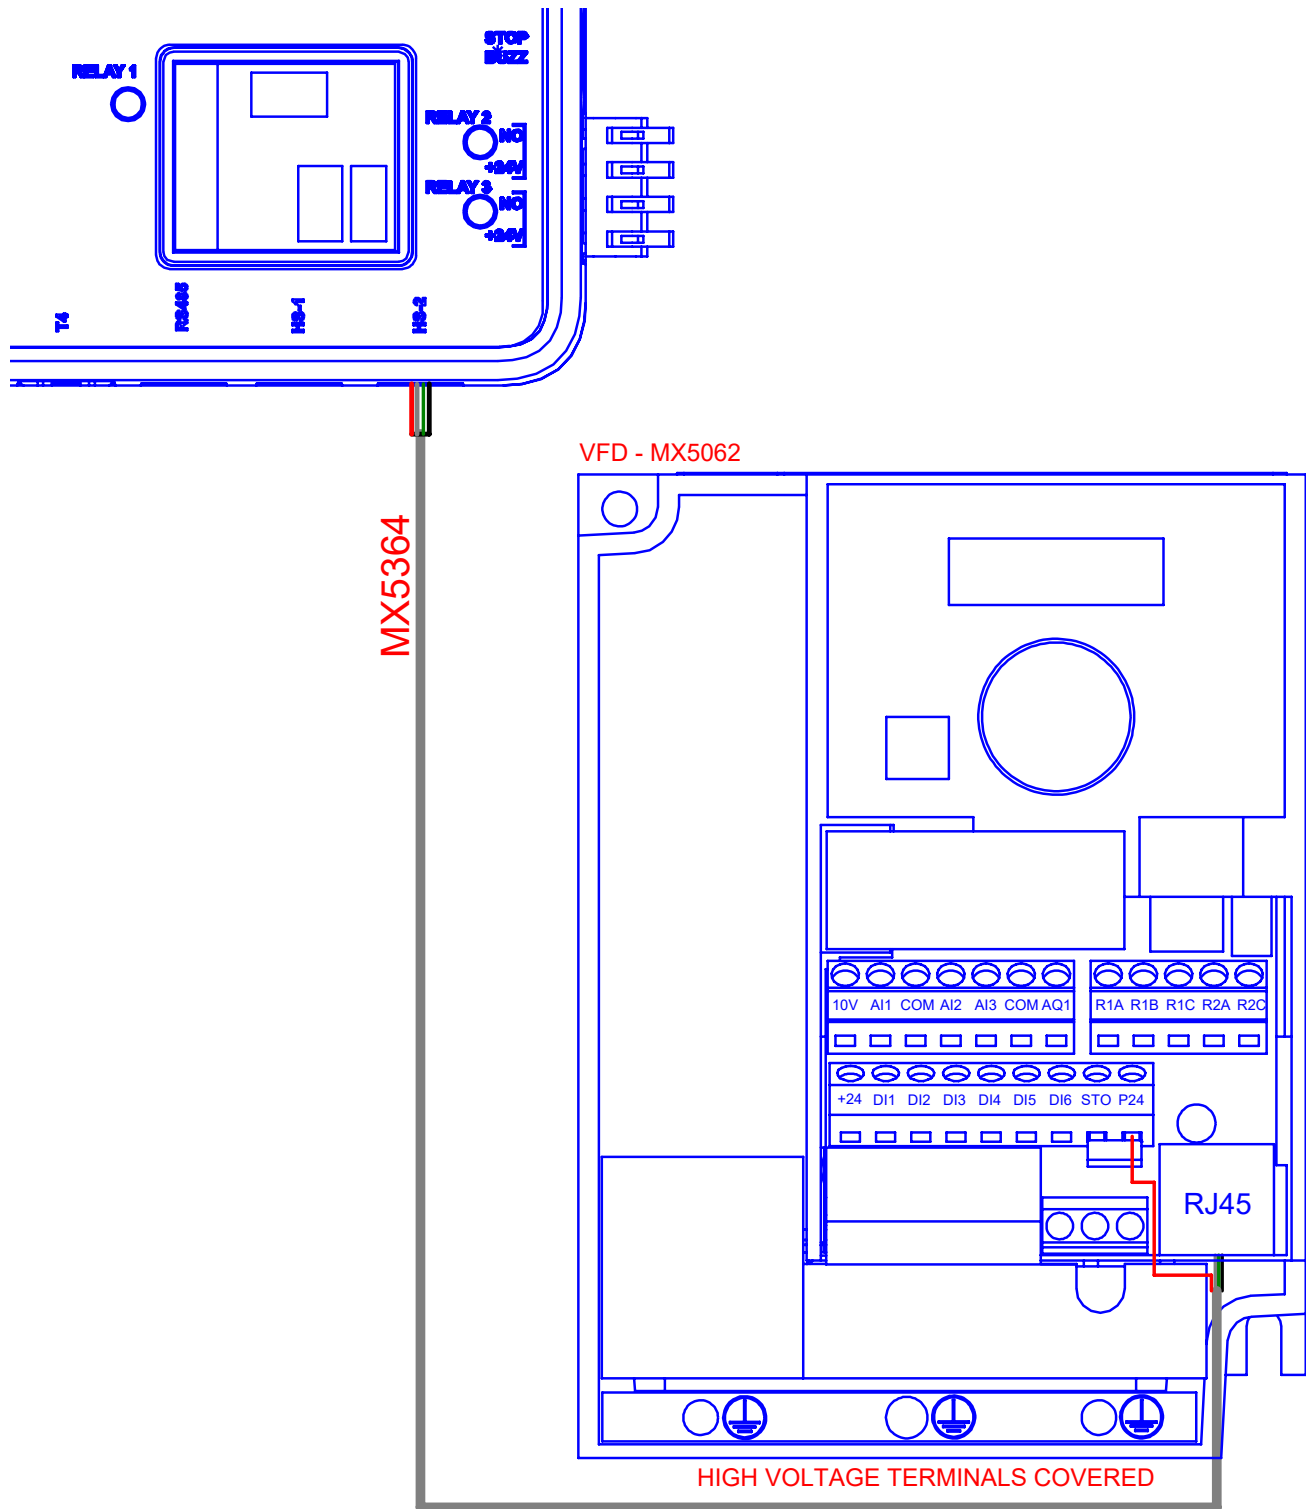
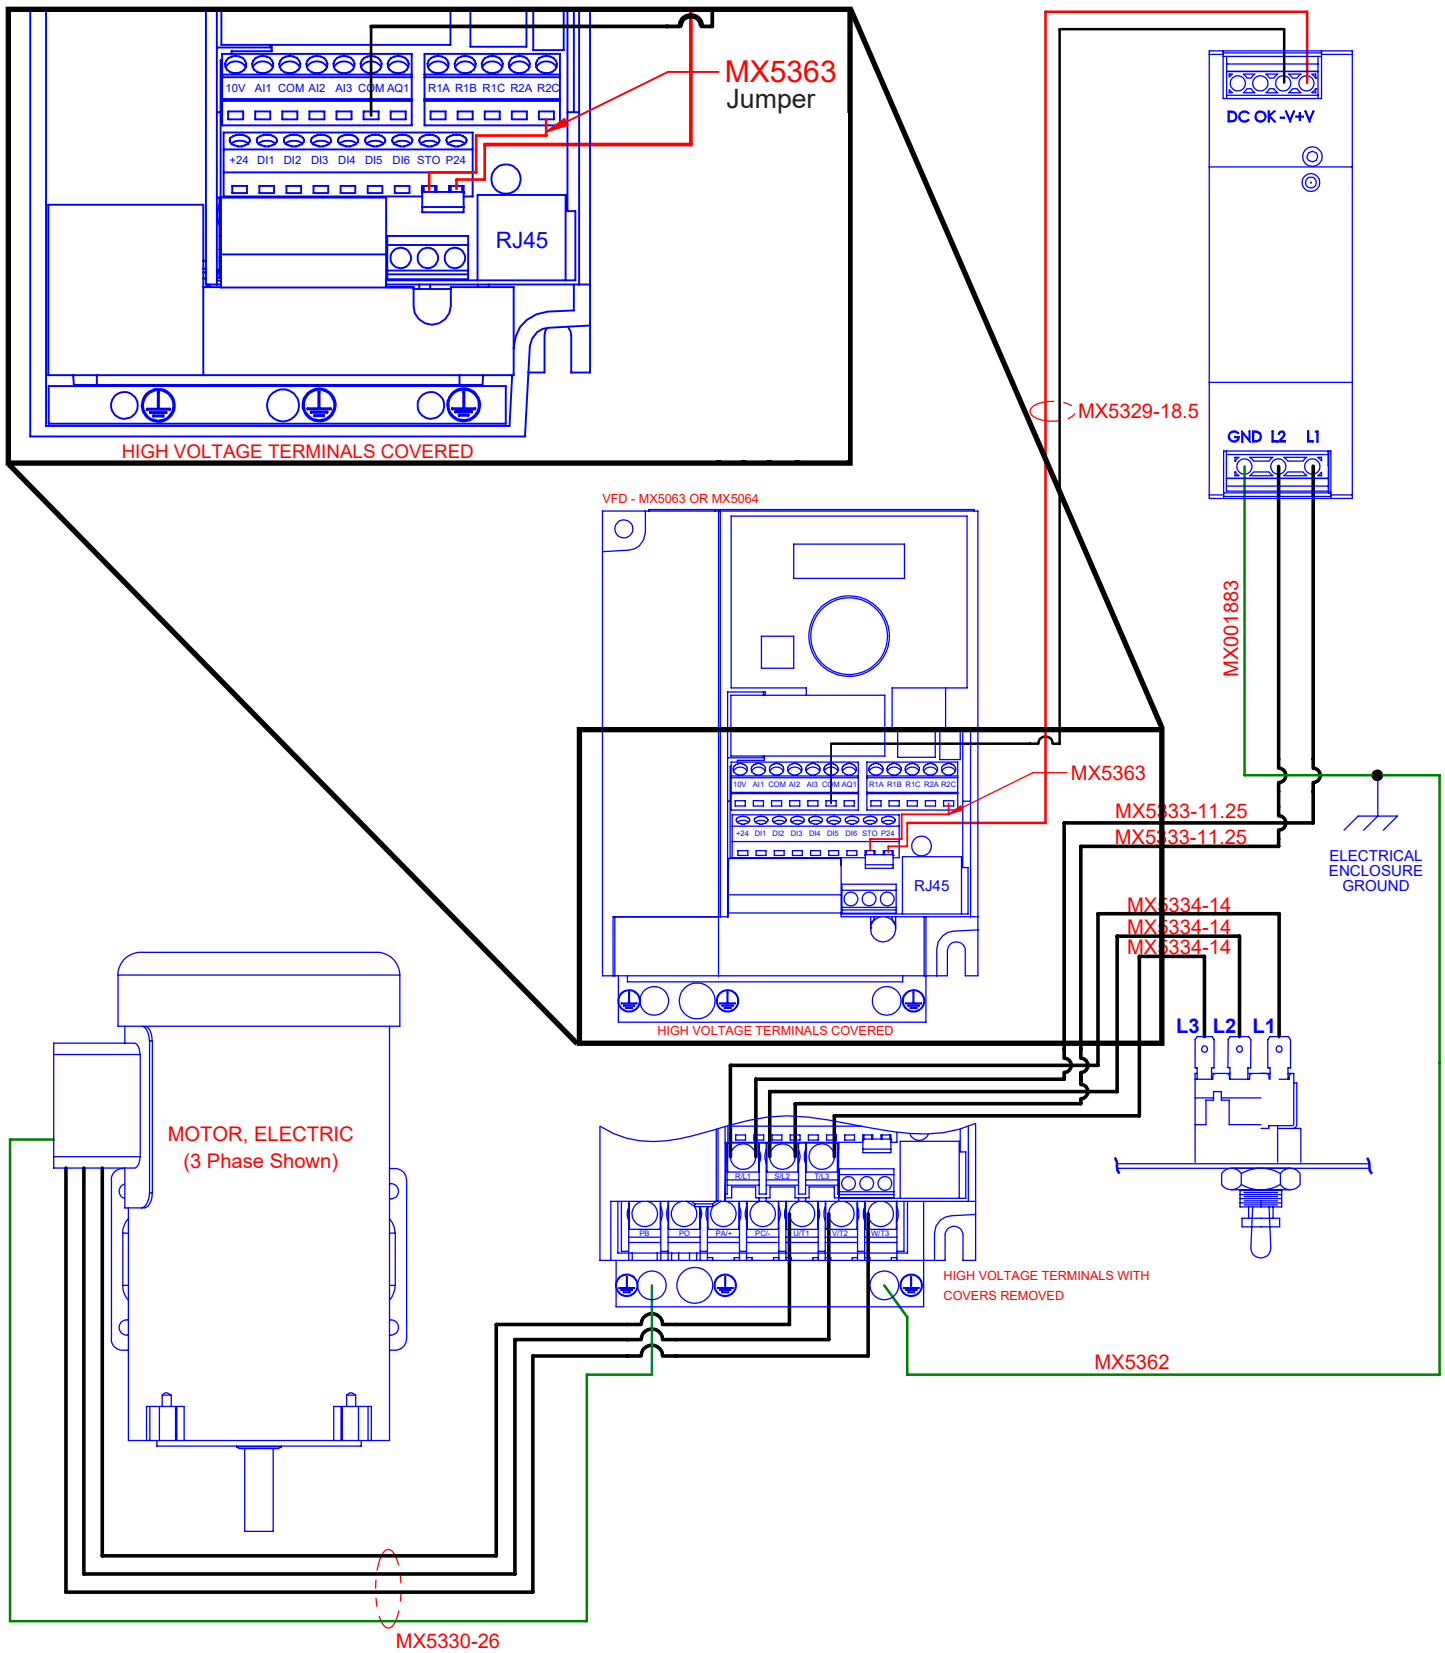

Figure 3. SmartTouch 720/725 Controller
Figure 9. Power Wiring 3Ø
2. Refer to the wiring diagrams and reconnect all control and power wiring (Figure 3 - Figure 9).